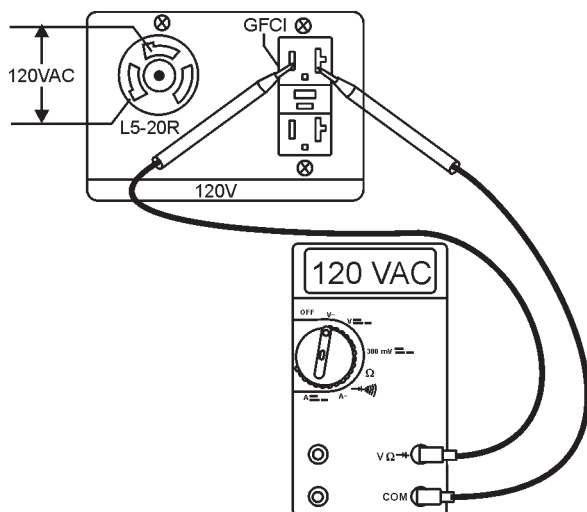

Figure 15. 120 VAC GFCI Receptacle
9. If desired, verify with a voltmeter (Figure 15) that 120 VAC is present at the GFCI duplex receptacle and the 120V twist-lock receptacle.